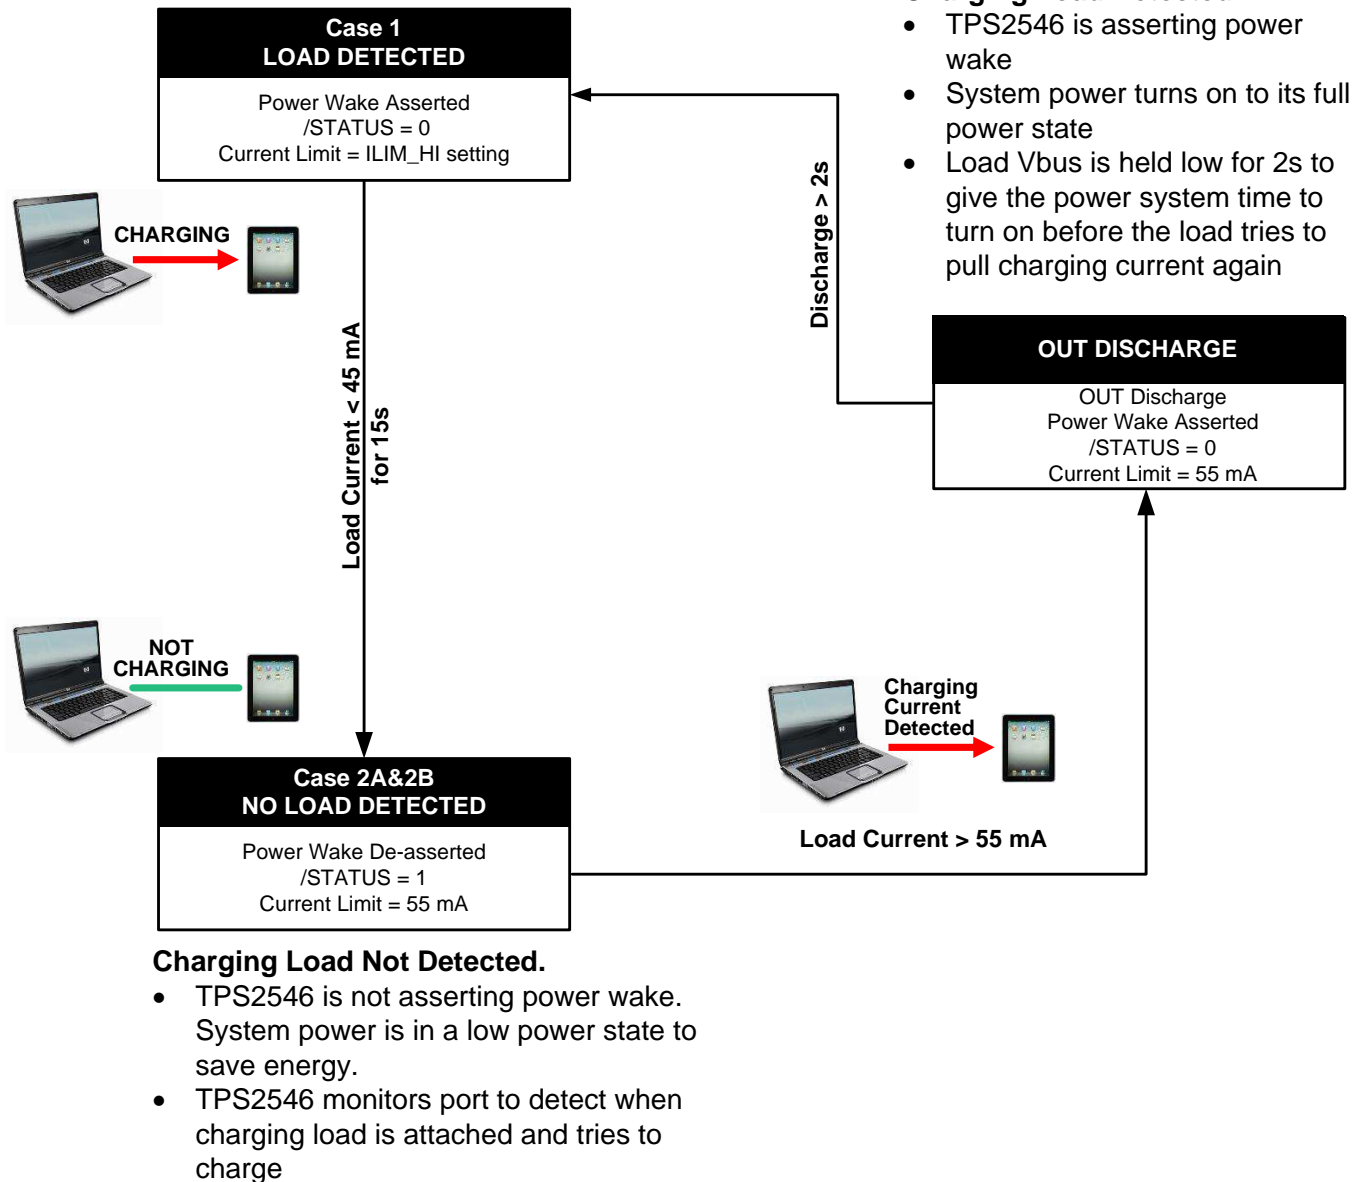

Figure 34. Power Wake Flow Chart
Goal of power wake feature is to save system power when system is in S4/S5 state. In S4/S5 state system is in deep sleep and typically running off the battery; so every “mW” in system power savings will translate to extending battery life. In this state the TPS2546 will monitor charging current at the OUT pin and provide a mechanism via the STATUS pin to switch out the high power DC-DC controller and switch in a low power LDO when charging current requirement is <45mA (typ). This would be the case when no peripheral device is connected at the charging port or if a device has attained its full battery charge and draws <45mA. Power wake flow chart and description is shown in Figure 34.
Following Power Wake flow chart (Figure 34) when a device is attached and draws $>55\text{mA}$ of charging current the TPS2546 will hit its internal current limit. This will trigger the device to assert **STATUS** (LO) and turn on the DC-DC converter and turn off the LDO. TPS2546 will discharge OUT for $>2\text{s}$ (typ) to allow the main power supply to turn on. After the discharge the device will turn back on with current limit set by ILIM_HI (Case 1)